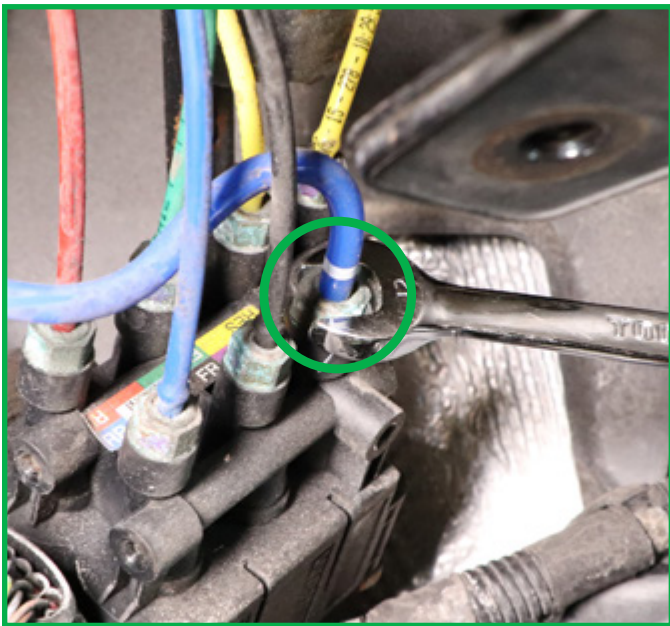

FIGURE 21
12. Remove the air line that leads to the compressor from the valve block. (Figures 21, 22)